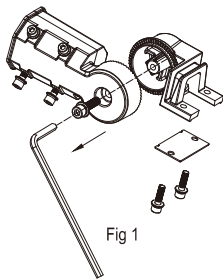

Fig 1
Step 1 : Disassemble the slip-fitter with a wrench, Loosen the 4 locking bolts in the Type A bracket by a wrench, as fig 1